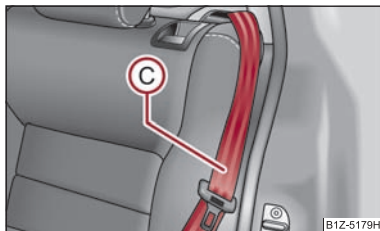

Fig. 61 Lock the seat backrest
- Place the rear lateral seat belt (C) ⇒ fig. 61 behind the edge of the side trim panel.